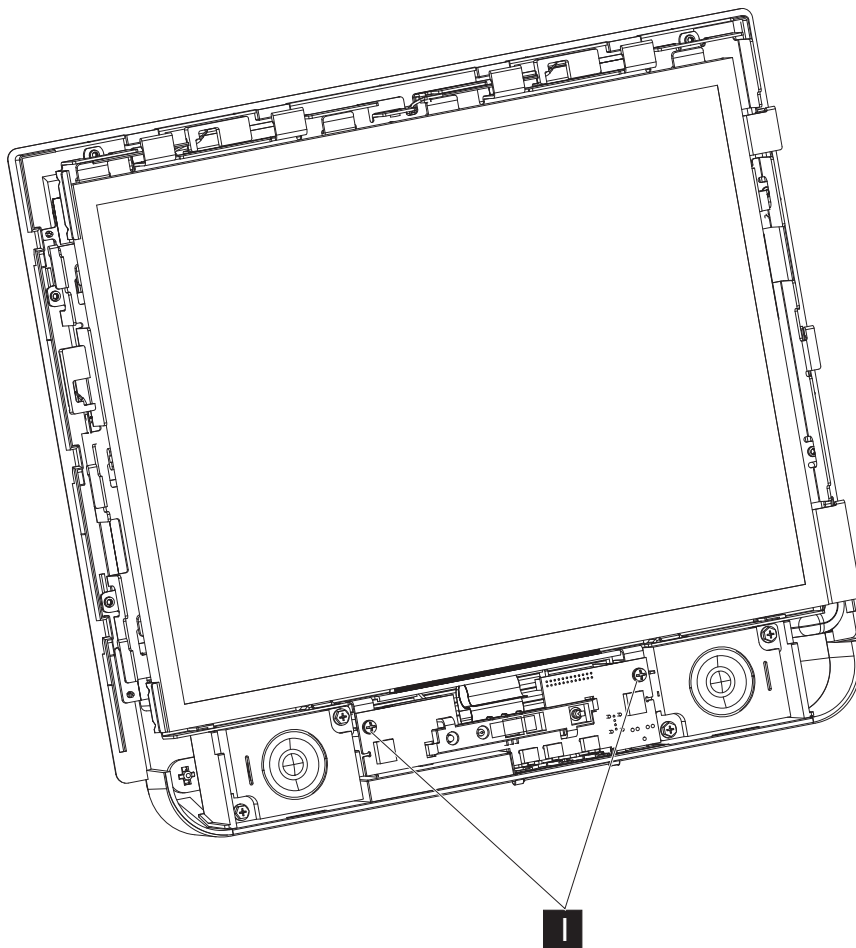

Figure 33. Removing the control card
3. Remove the two screws (**I** in Figure 33) that hold the control card in place, and lift out the card